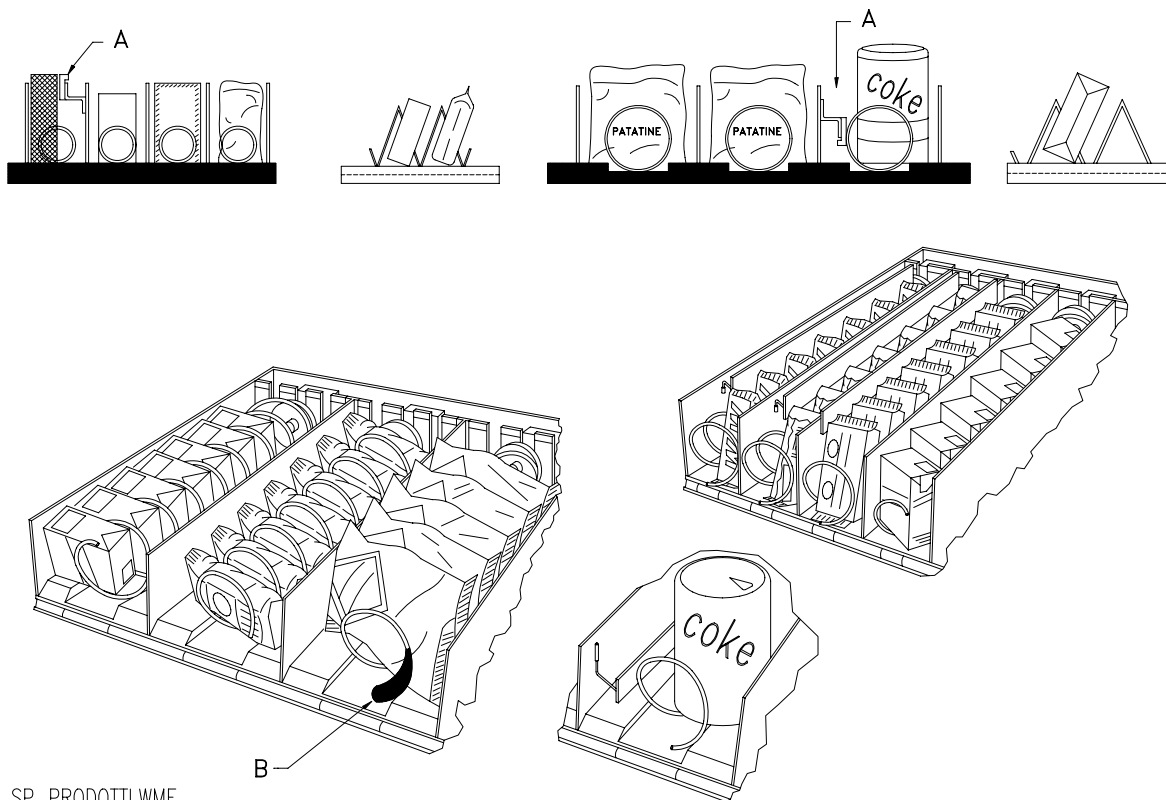

FIG. 3
7.2 DISTANCIADORES DE PRODUCTOS EN CAJONES (FIG. 3)
7.3 EXPULSOR DE PRODUCTOS (FIG. 3)